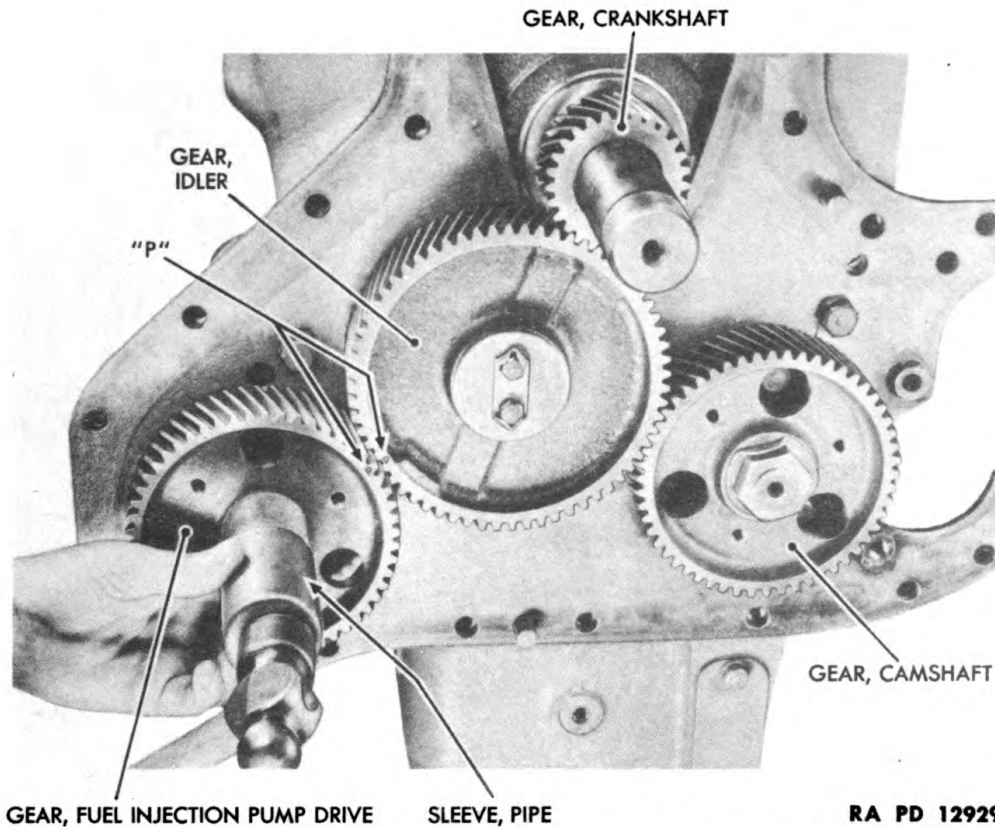

Figure 161—Fuel Injection Pump Drive Gear Installation
(3) **INSTALL FUEL INJECTION PUMP DRIVE GEAR** (fig. 161).